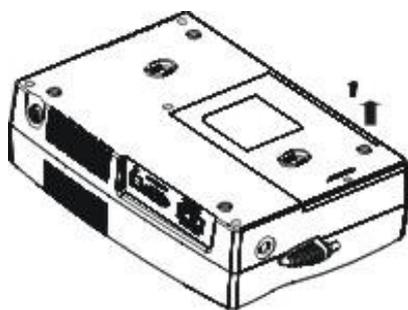

Figure 3
2. Turn the UPS over and remove the screws located on the bottom of the UPS to open the battery cover. Unscrew the 4 screws on the UPS bottom side (please refer to Figure 3).